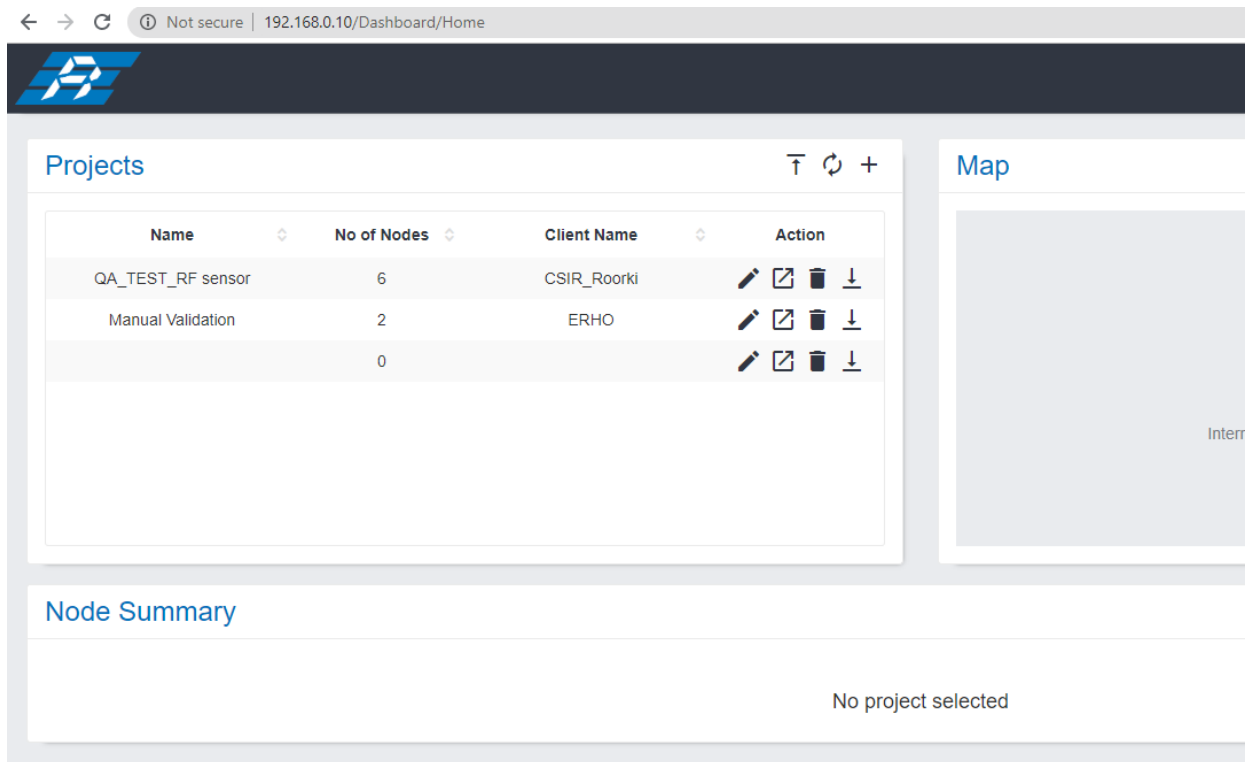

Figure 3-22
8. After pressing 'Setup' button, the software will take back to the Dashboard with the project details list as shown in figure 3-22.